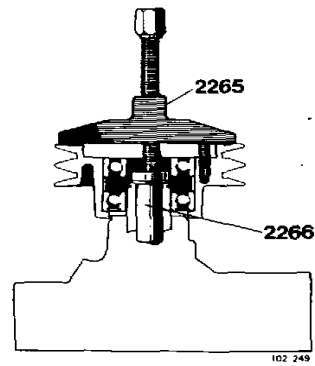

Fig. 196. Removing the pulley
6. Place the counterhold 2266 (fig. 196) in the pump housing's extended bearing journal.